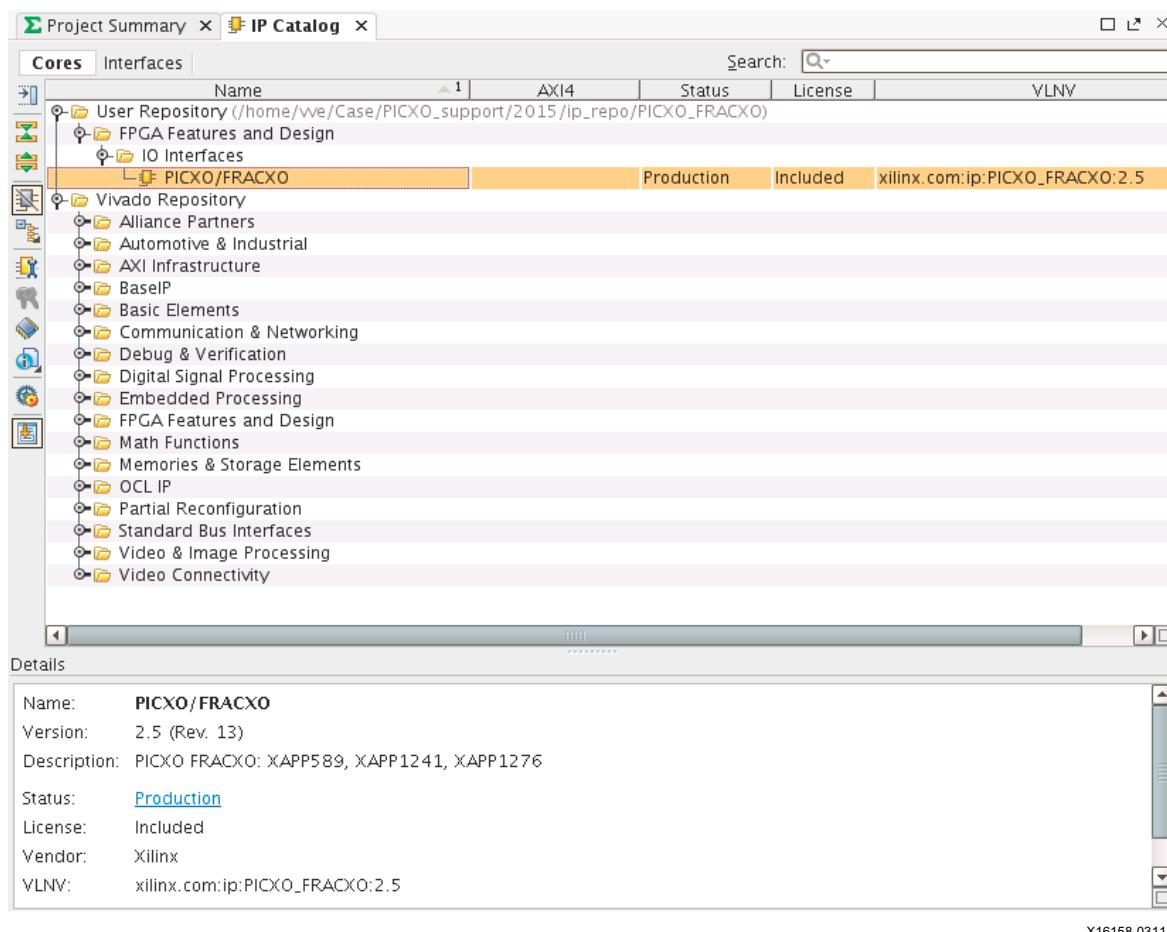

Figure 19: IP Catalog
3. Select the IP catalog. The PICXO/FRACXO IP is under **FPGA Features and Design > IO Interfaces** (Figure 19).